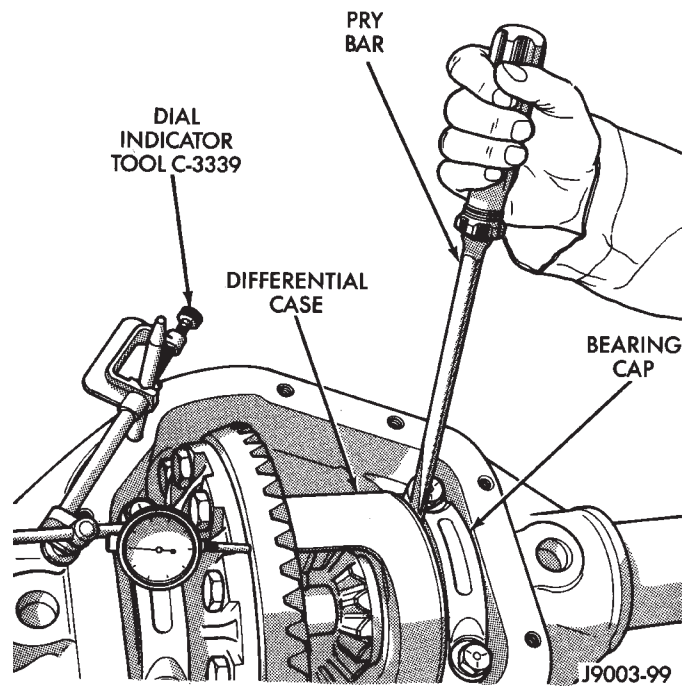

Fig. 57 Shim Pack Measurement
(1) Place Master Differential Bearing D-134 (D-348) on the case hubs.
(2) Install a pilot stud at the left side of housing. Attach Dial Indicator to housing. Load the indicator plunger against the back of the ring gear (Fig. 57). Ensure ring and pinion gear teeth are tightly meshed. Zero the indicator.
(3) Insert a small pry bar between the bearing cap and left side of differential case. Pry the case as far as possible to right side (Fig. 57). Zero the dial indicator pointer.
(4) Repeat the measurement several times to check consistency. Record the travel distance.